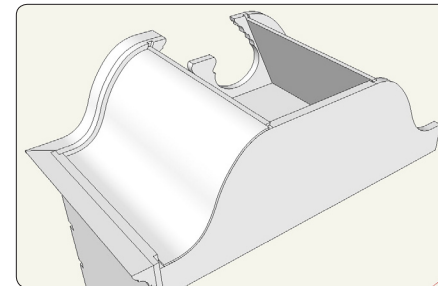

Figure 21. The bonnet back in place. This part of the highboy is complete, except for the decorative finials.
Step 8 Use the bonnet front to create the bonnet back. Copy the front, flip it, make it unique, eliminate the center cutout, and move it in place. When you move it into position, be sure the curved bonnet top is fastened to the top edge of the bonnet back. Figure 21 shows the bonnet back in place.